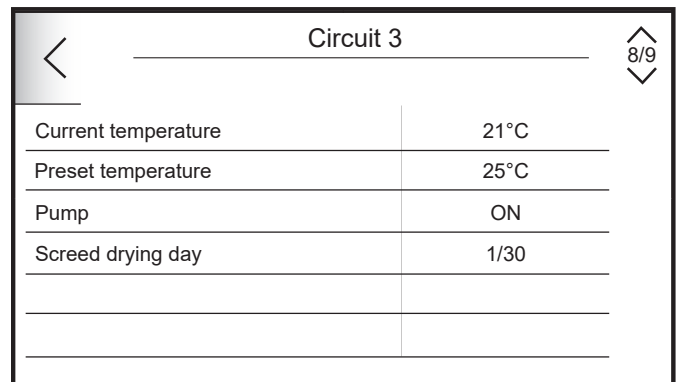

Figure 7-19: Screed drying counter
3. Either Tap the '^' or 'v' arrows or swipe the screen to scroll down to the heating circuit diagnostic information screen. Refer to Figure 7-19.